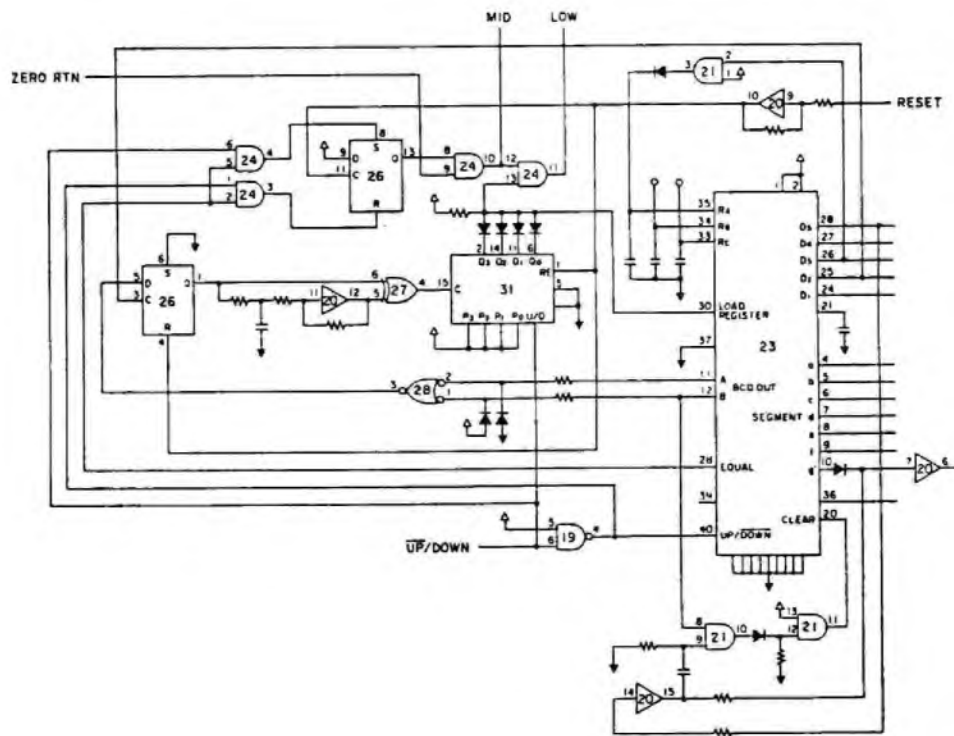
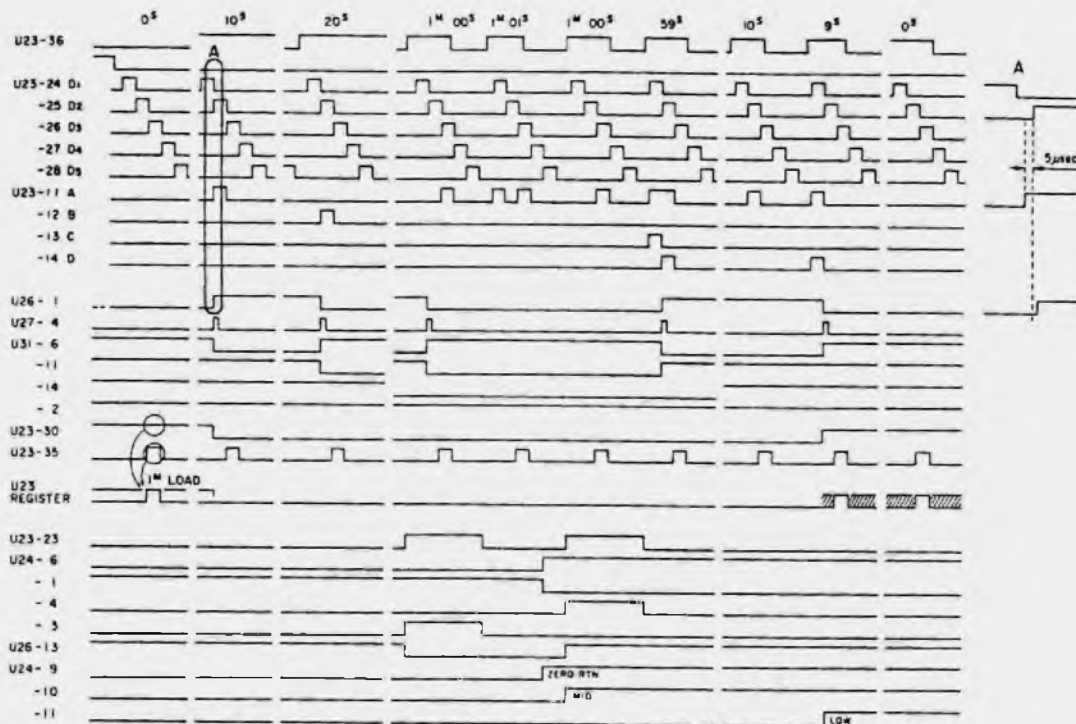

Fig. 4.6
Fig. 4.7
As the specifications for this system are as presented in 4-1, item 3, above, outputs for middle speed area and low speed area are required. The middle speed area are set to ± 1 minute and the low speed area to ± 10 seconds. The circuit for this operation is shown in Fig. 4.6 and the timing chart in Fig. 4.7.